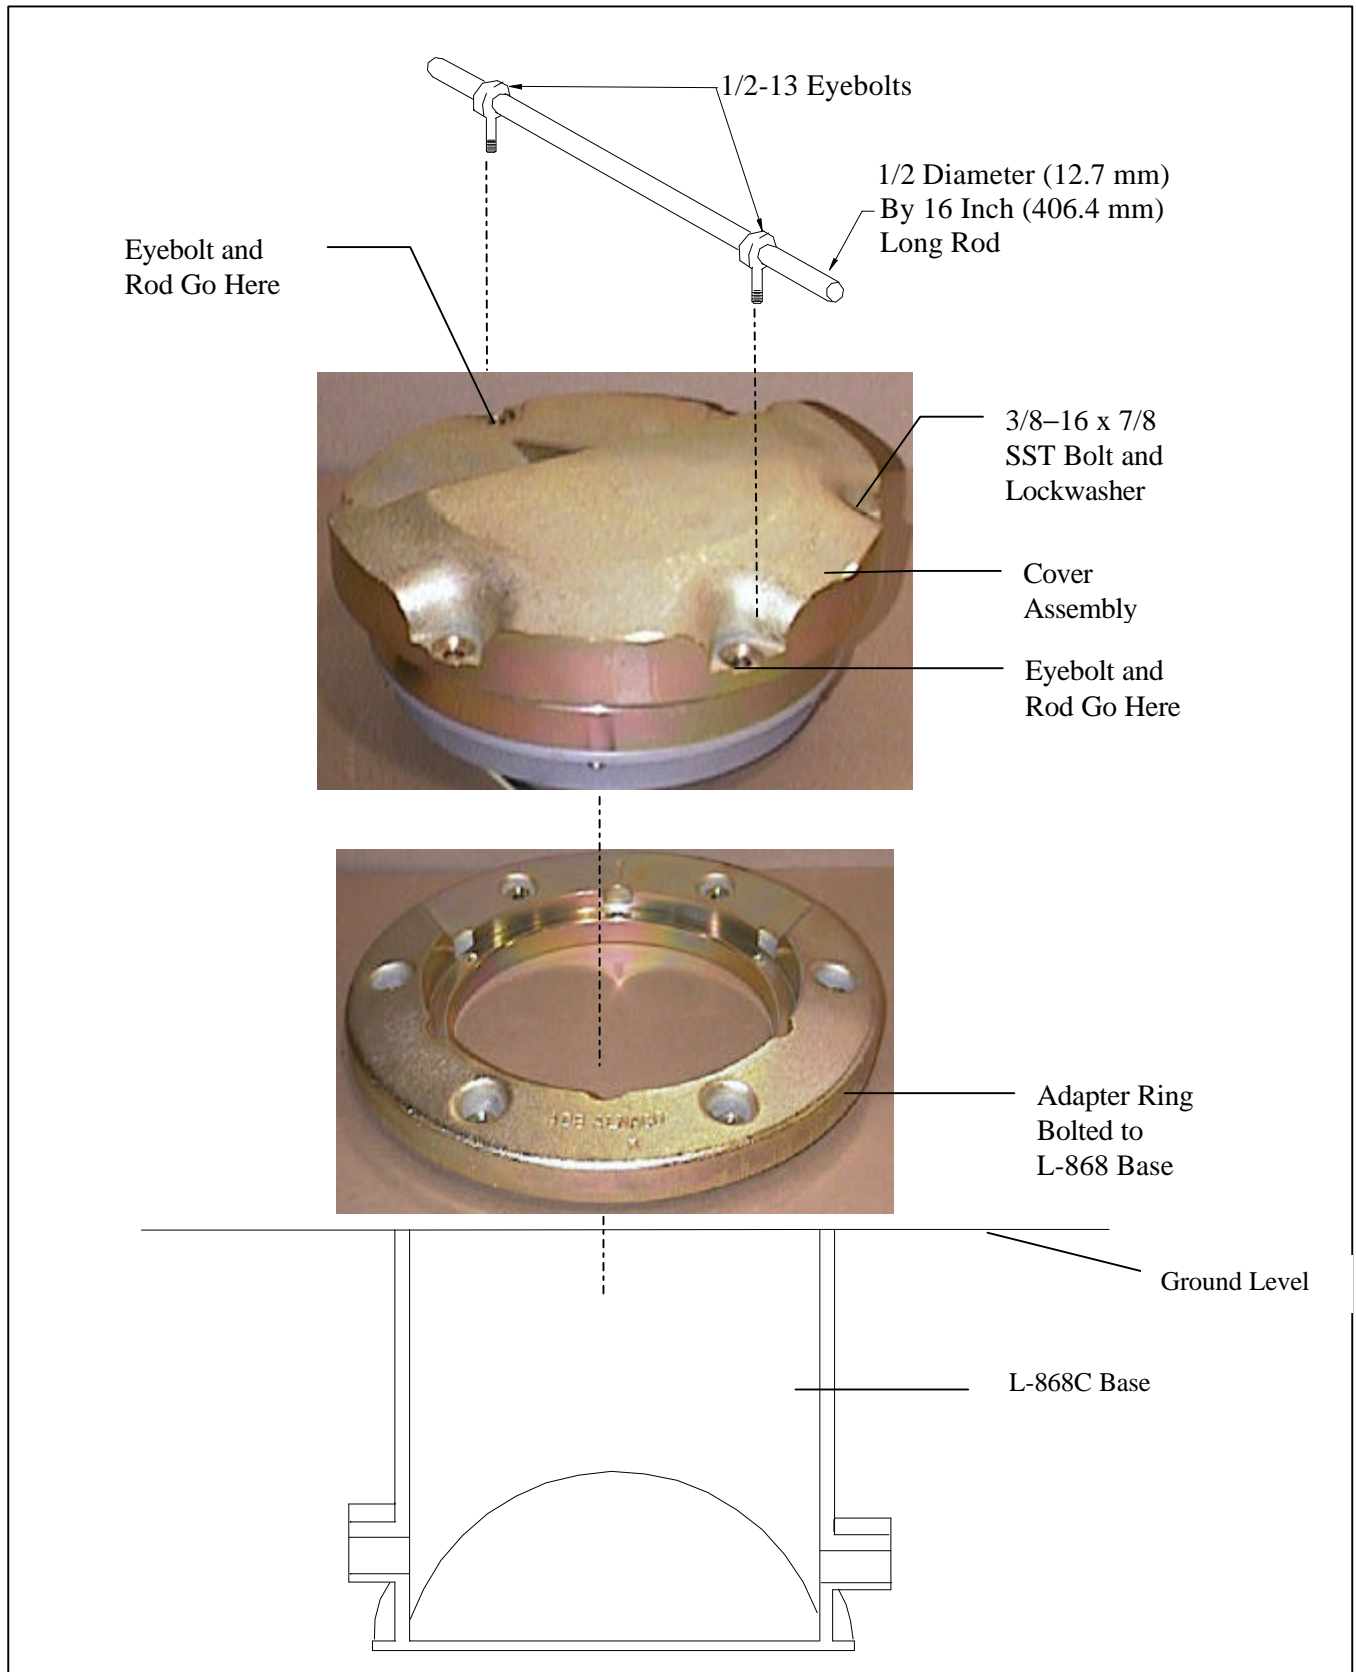

Figure 9. Installation (with Adapter Ring)
- See Figure 9. Slide a 1/2-inch-diameter rod through the 1/2–13 eyebolts and carry the light assembly to the base. Align the light assembly with the base for proper light direction.
3. See Figure 9. Thread two eyebolts into the opposite tapped holes in the cover assembly. Run a rod through the two eyebolts and gently lift the assembly from the base. Unplug the cordset.